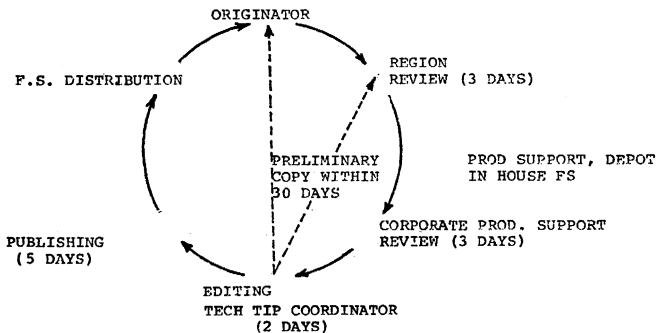

Figure 1. Tech Tip Reviewing Cycle
1. The review cycle for a Tech Tip will be as described in figure 1. The author should receive notification of approval or disapproval within 30 days of the date of submission. Complete cycle equals 60 days.